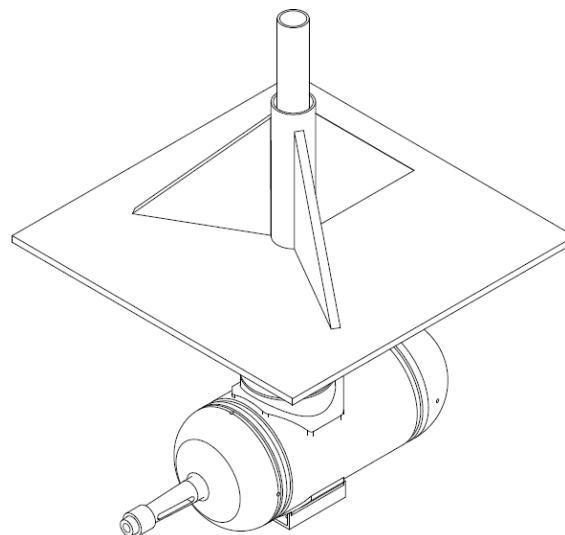
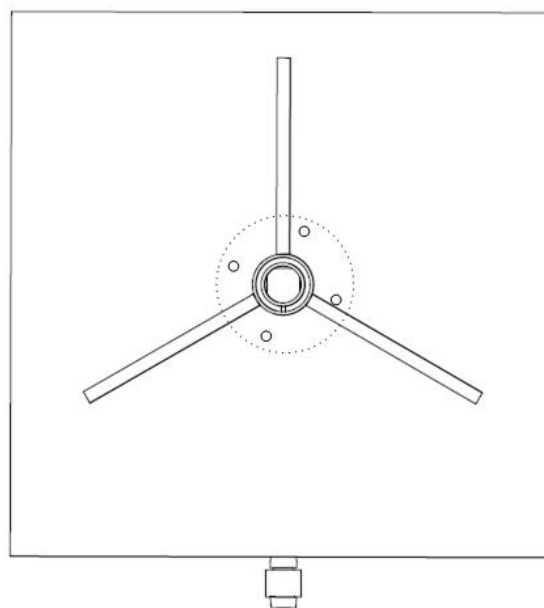

Figure 9: Reinforced housing – Overview with part of the boat hull
Figure 10: Reinforced housing – top view with part of the boat hull
5. Fit the rudder trunk using a reinforced housing in the hull (similar to when placing a conventional rudder). This housing needs to ensure that forces/torques on the rudder trunk (see chapter 8) are well absorbed by the hull. An example of a construction that could be used is given in Figure 9 and Figure 10.